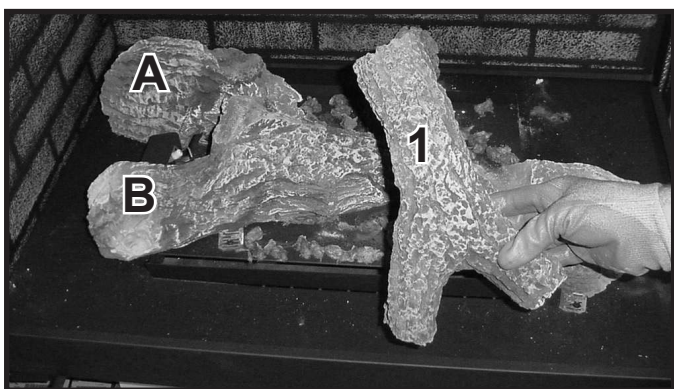
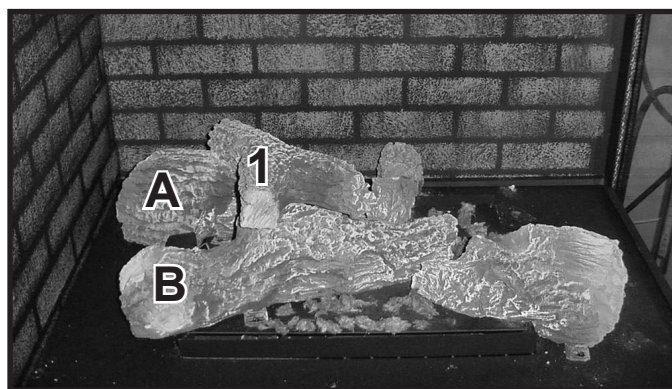

Figure 9. Placement of Log #1
Figure 10. Placement of Log #1
STEP 1. Log #1 (SRV2129-704): Place Log #1 on Log A. The end and bottom of Log #1 fit into the indentation on Log A highlighted in Figure 9. The Y-shaped end of Log #1 will rest on the smooth area of Log B as shown in Figure 10.